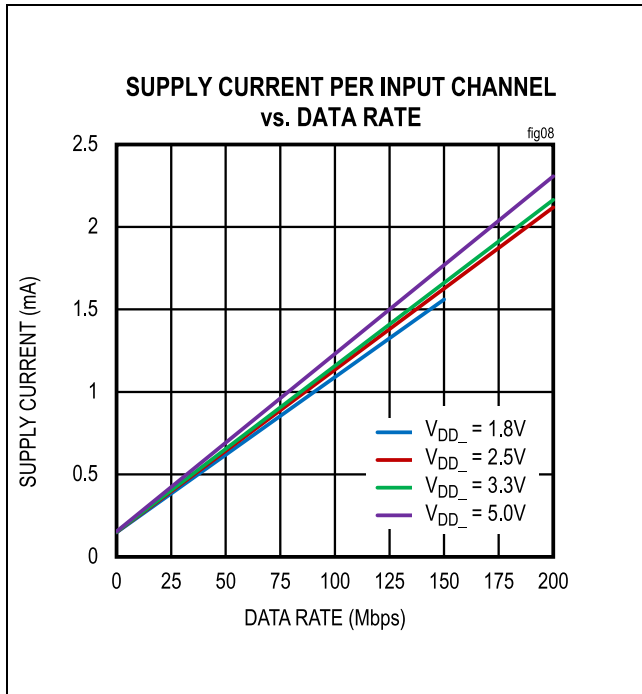
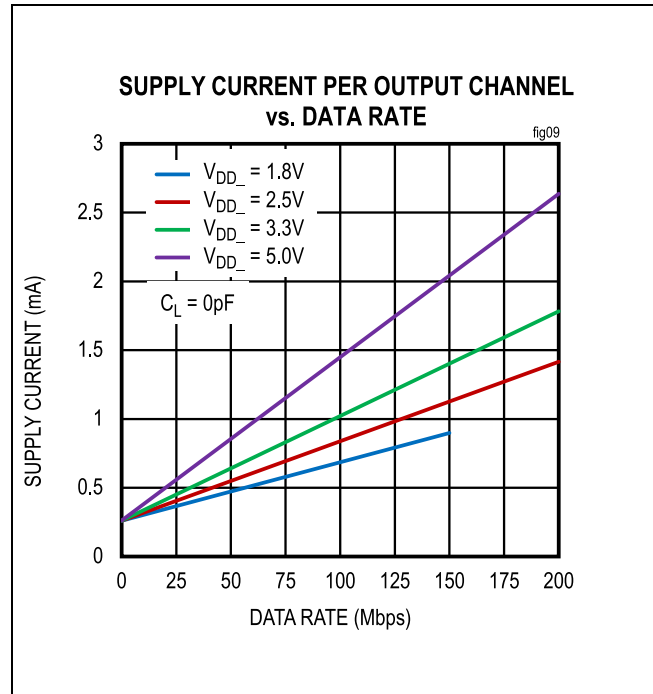

Figure 8. Supply Current per Input Channel (Estimated)
Figure 9. Supply Current per Output Channel (Estimated)
The required current for a given supply (V_{DDA} or V_{ddb}) can be estimated by summing the current required for each channel. The supply current for a channel depends on whether the channel is an input or an output, the channel's data rate, and the capacitive or resistive load if it is an output. The typical current for an input or output at any data rate can be estimated from the graphs in Figure 8 and Figure 9. Note that the data in Figure 8 and Figure 9 are extrapolated from the supply current measurements in a typical operating condition.
The total current for a single channel is the sum of the no load current (shown in Figure 8 and Figure 9), which is a function of voltage and data rate, and the load current, which depends on the type of load. Current into a capacitive load is a function of the load capacitance, the switching frequency, and the supply voltage.
- Channel 1 is an output channel operating at 2.5V and 100Mbps, consuming 0.84mA, estimated from Figure 9.
- Channel 2 is an input channel operating at 2.5V and 20Mbps, consuming 0.35mA, estimated from Figure 8.
Channel 1 is an input channel operating at 3.3V and 100Mbps, consuming 1.16mA, estimated from Figure 8.
- Channel 2 is an output channel operating at 3.3V and 20Mbps, consuming 0.41mA, estimated from Figure 9.